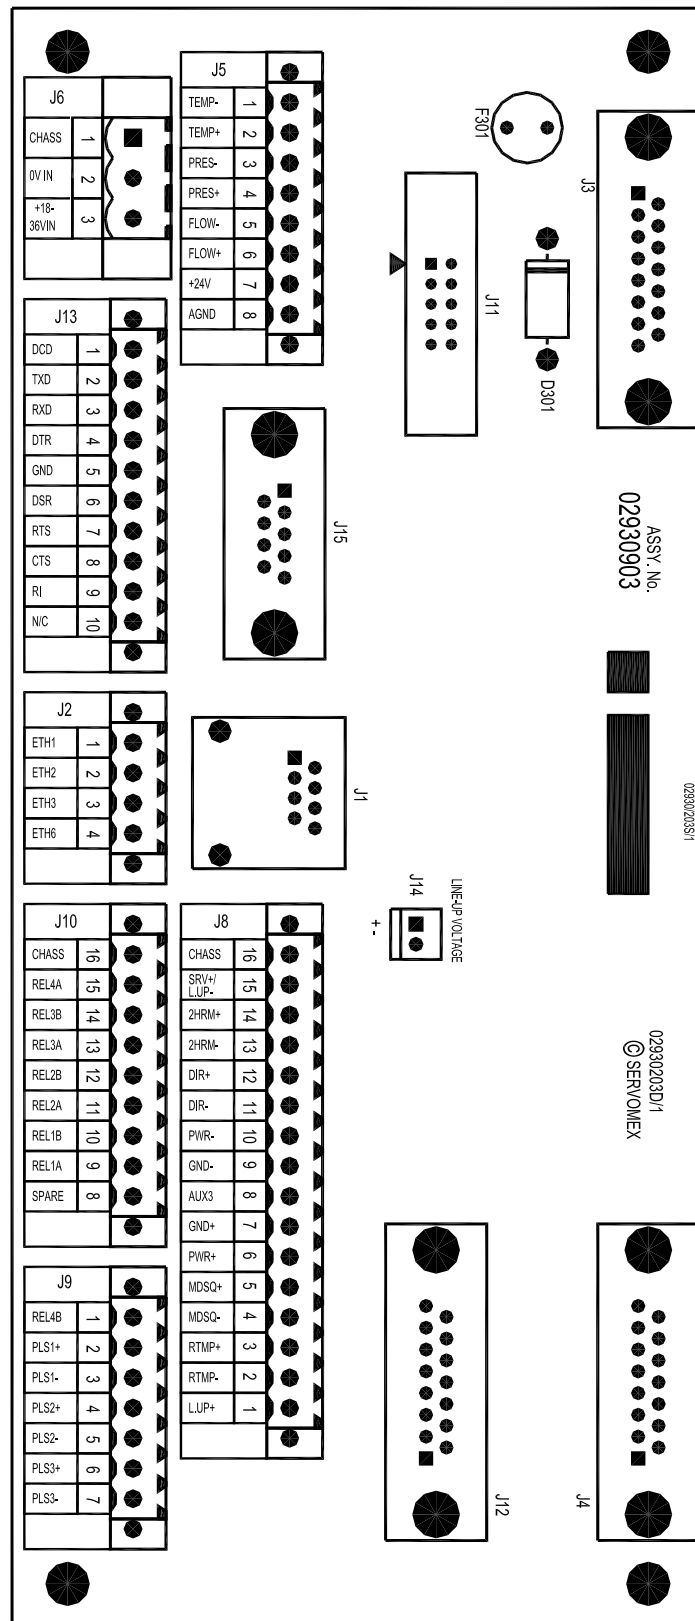
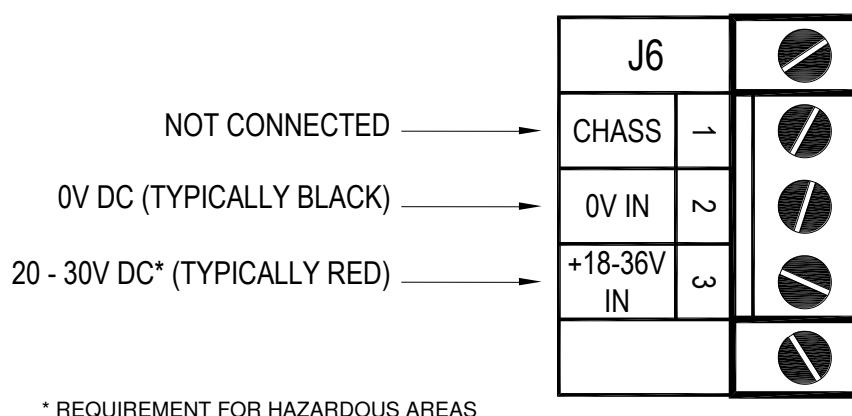

Figure 6-2: Internal input and output connectors
Figure 6-5: DC power connections
2. Connect the DC supply directly to terminal J6 on the connection PCB (Figure 6-2 and Figure 6-5) as follows: